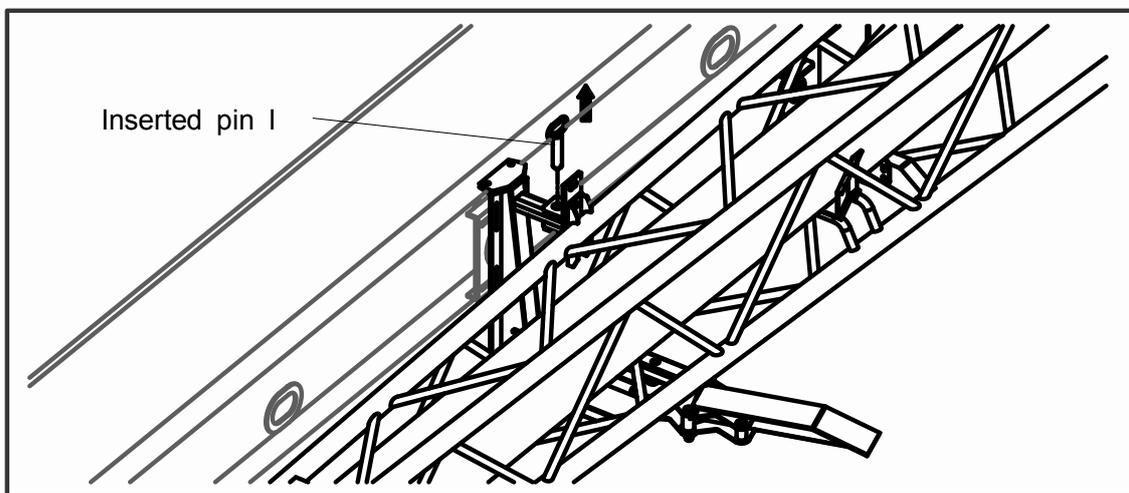

Fig.05-03
- d) Unfold the intermediate adaptor and remove the inserted pin I. See Fig.05-03;